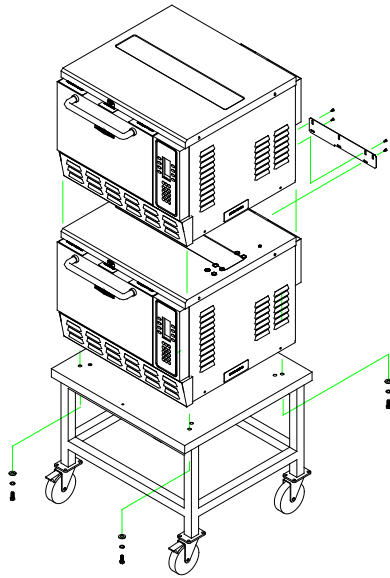

FIGURE 3: Oven Secured to Cart
Securing Oven to Cart (Figure 3)
5. Install bolts with washers by running them up through the cart surface and into the holes in the oven (where the legs were). See Figure 3.